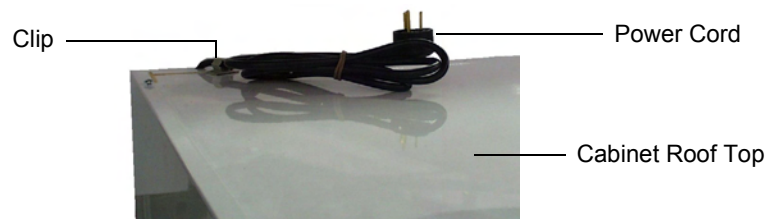

Figure 1: Flex and Plug
**Power Cord** The chiller is supplied with a 3.0m flexible power cord fitted with a 3-pin plug. For transit purposes the power cord is clipped to the roof of the cabinet (see Figure 1 below). For convenience, the cord should be retrieved before the machine is positioned, when walls and partitions may make access difficult.